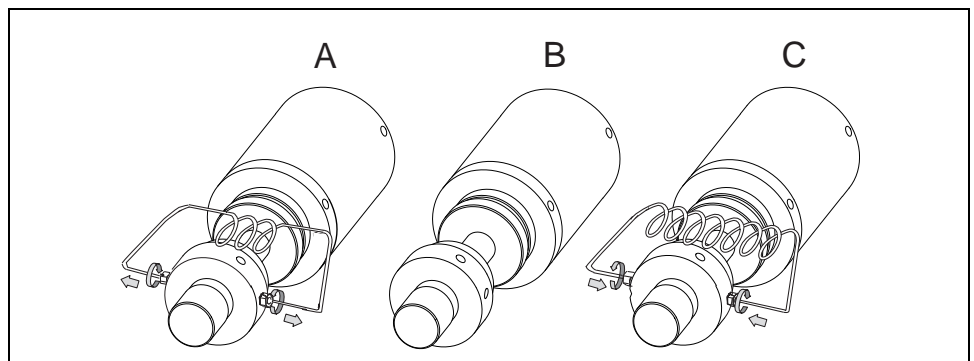

Figure 15-24. Sampling Loop Installation/Replacing
- By using the 1/4-inch wrench, loosen the two fittings of the sampling loop, and remove it. See **A** and **B** of Figure 15-24.